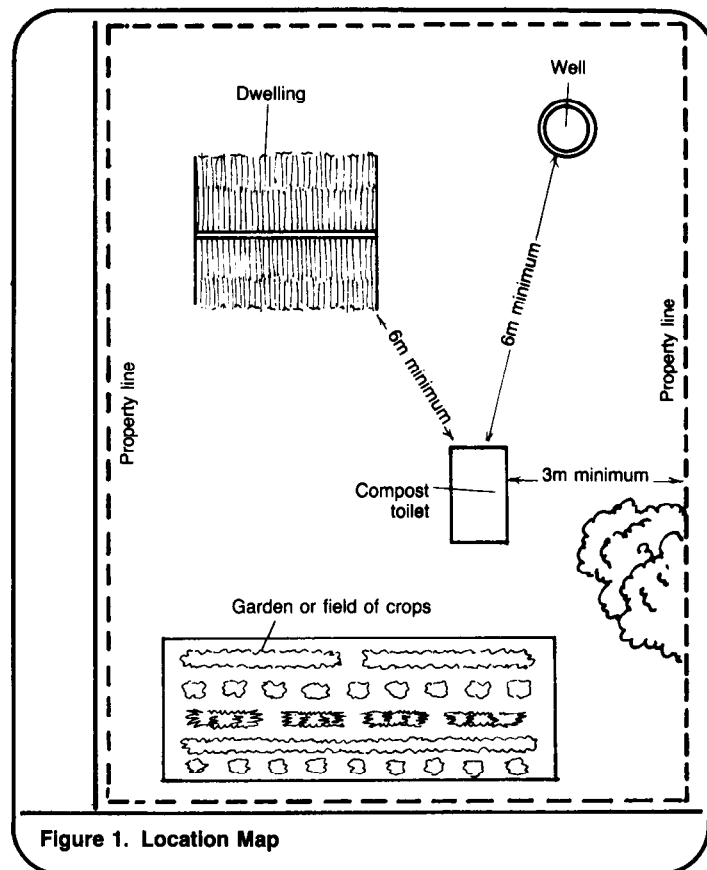

Figure 1. Location Map
1. A location map similar to Figure 1.